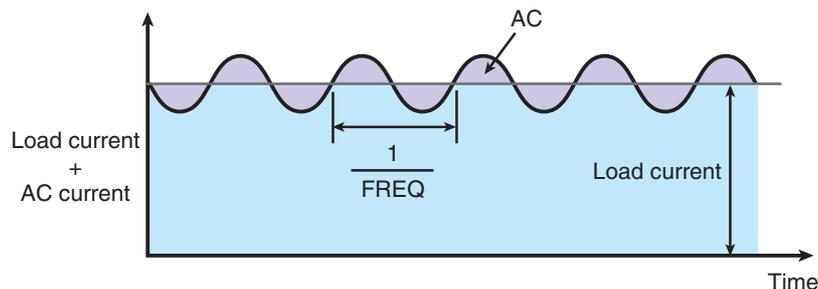

Fig. 5-8 Measuring AC current
Fig. 5-8 shows a conceptual diagram of the frequency (FREQ) and value (AC) of the measuring AC current. Because the percentage with respect to the load current takes precedence for the measuring AC current, changing the load current also changes the measuring AC current. Even when an absolute value is used to set the measuring AC current, it is stored as a percentage in the KFM2150.